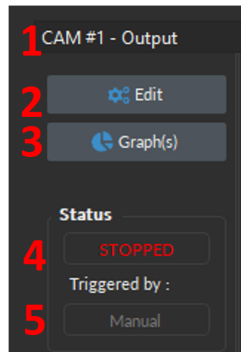
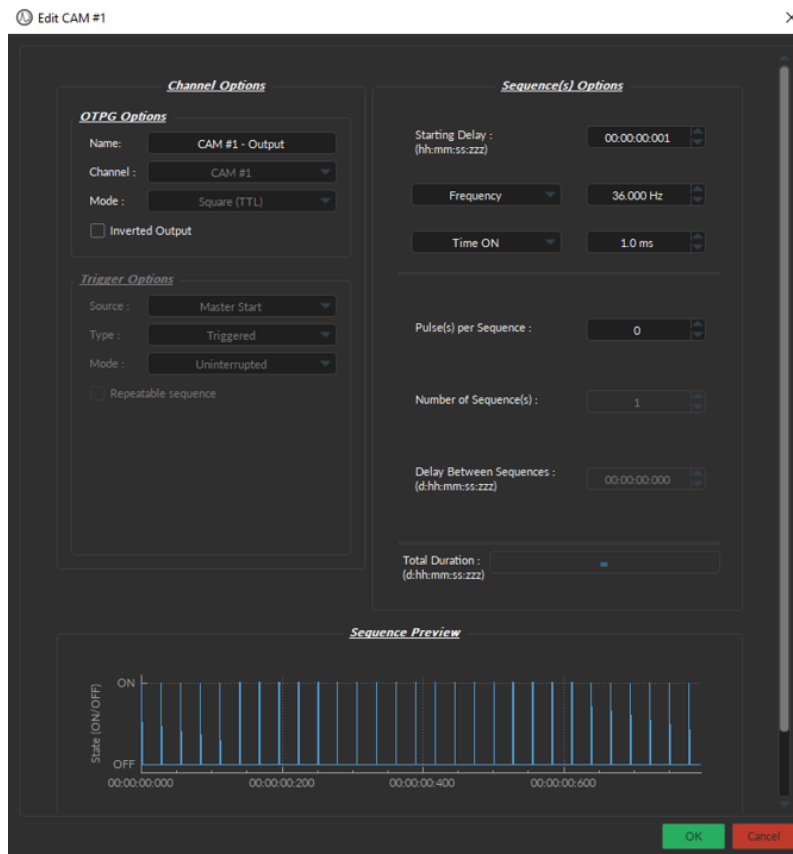
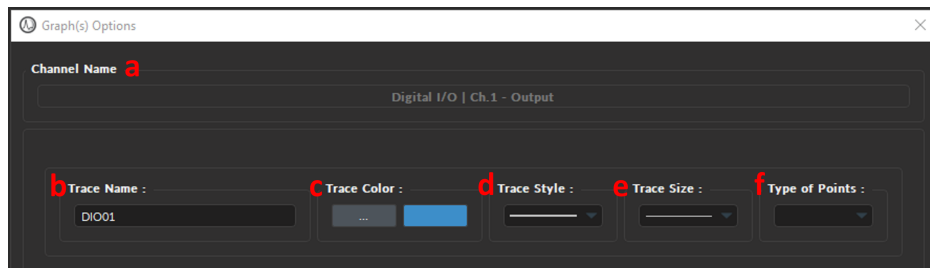
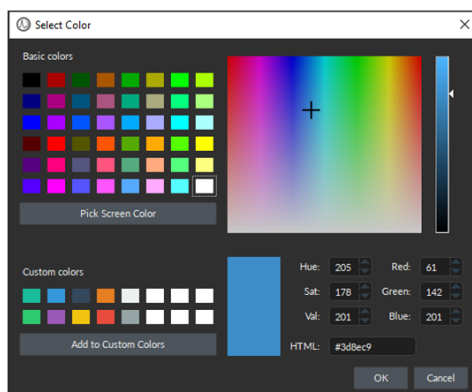

Figure 14.34: Digital I/O View, Control box
Figure 14.35: Edit Preset CAM or EXC configuration
Figure 14.36: Graph(s) Options Window
Figure 14.37: Select Color Window
The following elements are contained within the **Control Box** of every Digital channel (Fig. 14.34):
1. The **Channel name** (Fig. 14.34, 1) is located on the upper left of the **Control box**, identifying the type of channel and its number, corresponding to that on the *BFPD*.
2. The **Edit** button (Fig. 14.34, 2) opens the **Channel Configuration** window, where the preset digital outputs can be modified (Fig. 14.35). For details on individual parameters, see Section 14.4.4.
3. The **Graph(s)** (Fig. 14.34, 3) button opens the **Graph Options** window (Fig. 14.36) corresponding to the channel whose graph will be modified. This window allows users to configure the visualization and naming parameters of each channel graph. If a channel has multiple traces, parameters to configure each trace individually will appear automatically on different rows. **Graph(s) Options** parameters are as follows:
- The **Channel Name** (Fig. 14.36, 1) is the default name assigned by the software, which includes the type of channel (Digital / Analog In or Out) and the location of said channel on the console (BNC connector 1-4).
- The **Trace Name** text-box (Fig. 14.36, 2) allows users to specify a name for the trace, instead of the default name generated by the software.
- The **Trace Color** button (...) (Fig. 14.36, 3) opens the **Color Select** window (Fig. 14.37), which allows the selection of a trace color from a wide palette. The **Pick screen color** in this window allows the selection of any color displayed on the computer screen.
- The **Trace style** drop-down list (Fig. 14.36, 4) allows the selection of the type of trace, from full to dashed lines. If the style chosen is empty, the trace will not be displayed.
- The **Trace size** drop-down list (Fig. 14.36, 5) allows the selection of the trace size. Using a bigger **Trace size** than the default may result in slower display and performance degradation.
- The **Type of points** drop-down list (Fig. 14.36, 6) selects the style data point used to demark instantaneous values on the graph. Using different point types than the default (none) may result in slower display and performance degradation.
- The **Status** bar (Fig. 14.34, 4) displays acquisition status. **STOPPED** is displayed when the acquisition is inactive, **STARTED** when acquisition is active, and **WAITING...** when the **Master Trigger** is set to *Triggered* (see Section 14.3.2.1, no. 3).
- The **Triggered by:** (Fig. 14.34, 5) text-box displays the source of the trigger for that channel, which can either be Manual (i.e. selecting the **Record/Live** button) or a specific channel that provides external trigger signal.